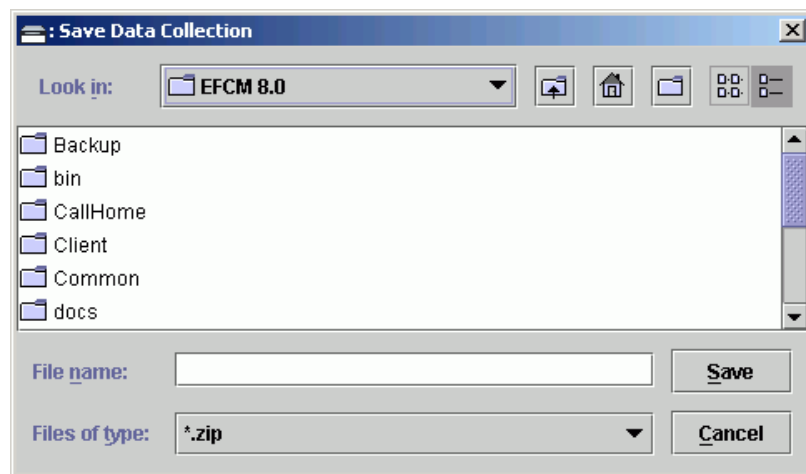

Figure 4-30 Save Data Collection Dialog Box
3. Select the *Data Collection* option from the *Maintenance* menu. The *Save Data Collection* dialog box displays (Figure 4-30).